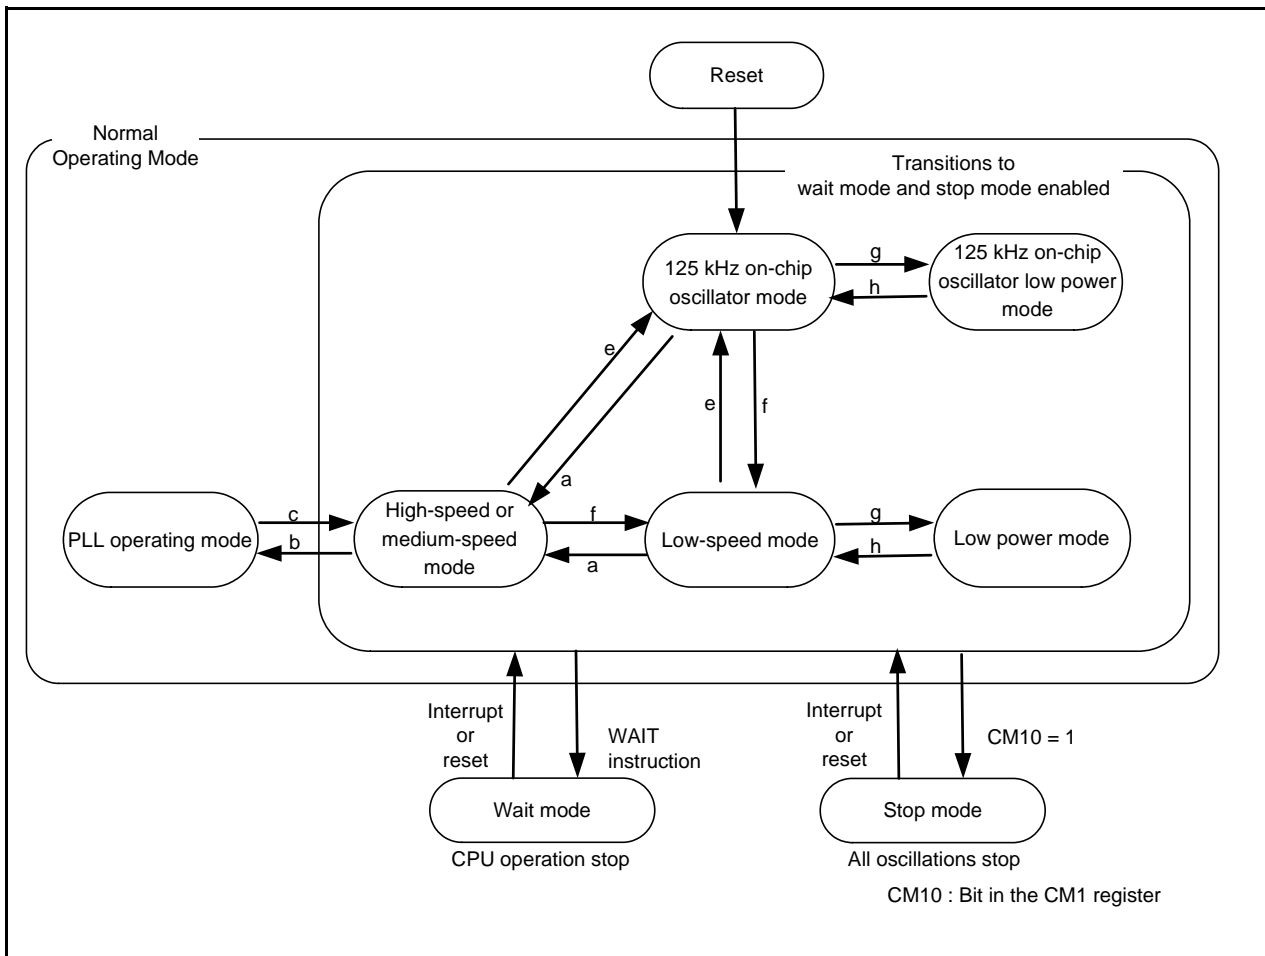
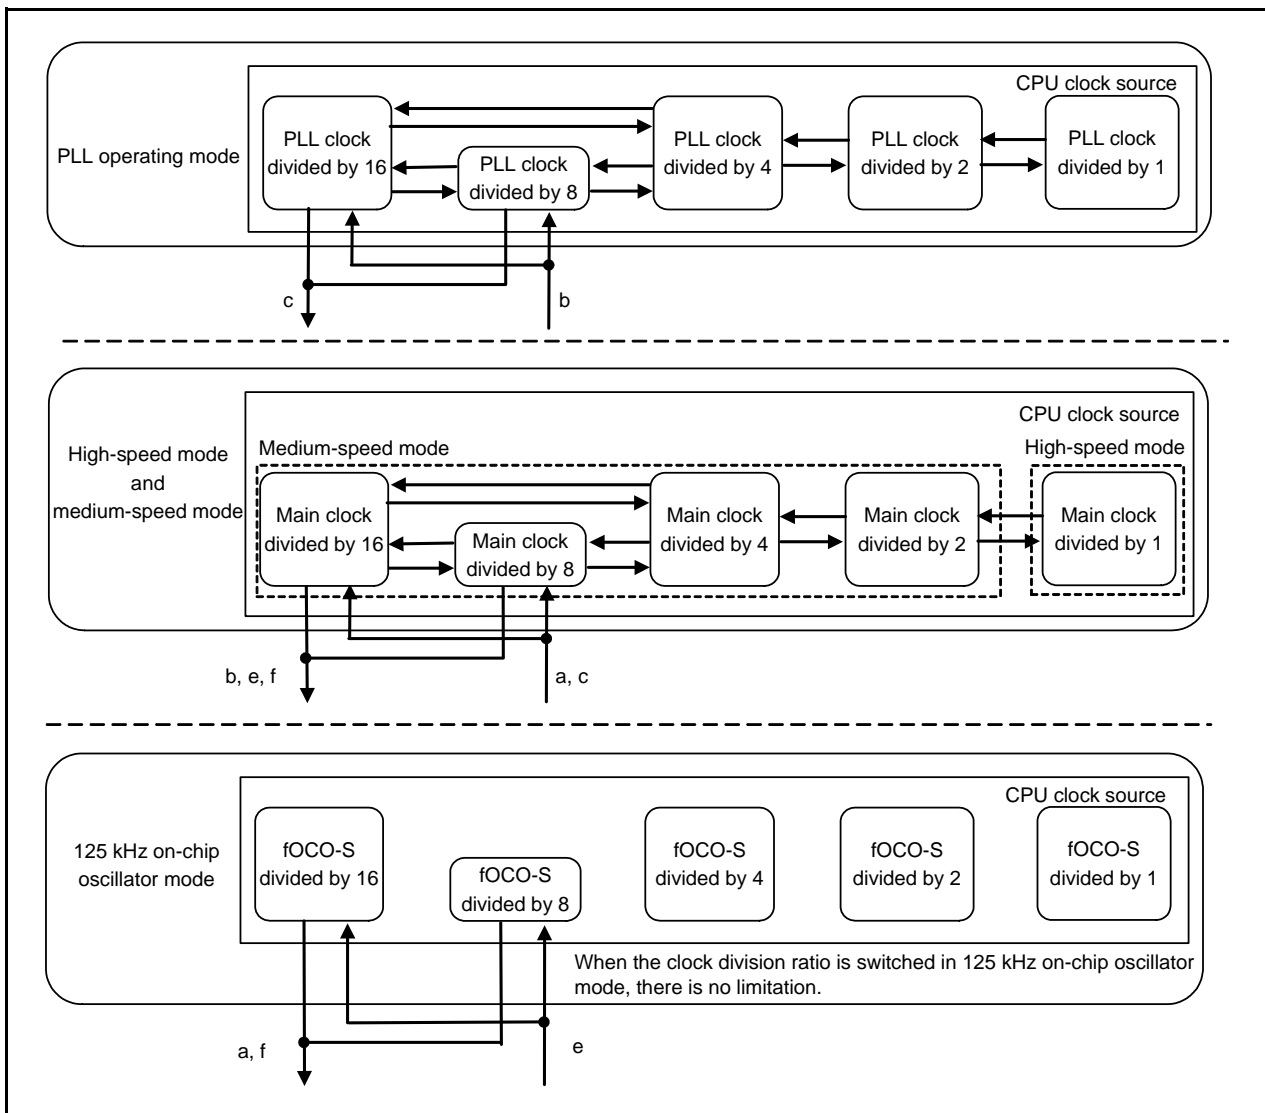

Figure 9.1 Clock Mode Transition
Figure 9.2 Clock Divide Transition
PLL operating mode can be entered and exited from medium-speed mode. To enter other modes including wait mode and stop mode, enter medium-speed mode first, and then enter the intended mode. Refer to Figure 9.1 "Clock Mode Transition" for details.
Figure 9.1 shows Clock Mode Transition. Arrows indicate possible mode transitions.
- When the clock division ratio is switched in PLL operating mode or high-speed or medium-speed mode, the ratio changes in the order shown in Figure 9.2.
- To change the mode, follow procedures a to c, and e to h listed below. For details on register and bit access, refer to 9.2 “Registers”. Letters a to c, and e to h correspond to those in Figure 9.1 “Clock Mode Transition” and Figure 9.2 “Clock Divide Transition”.